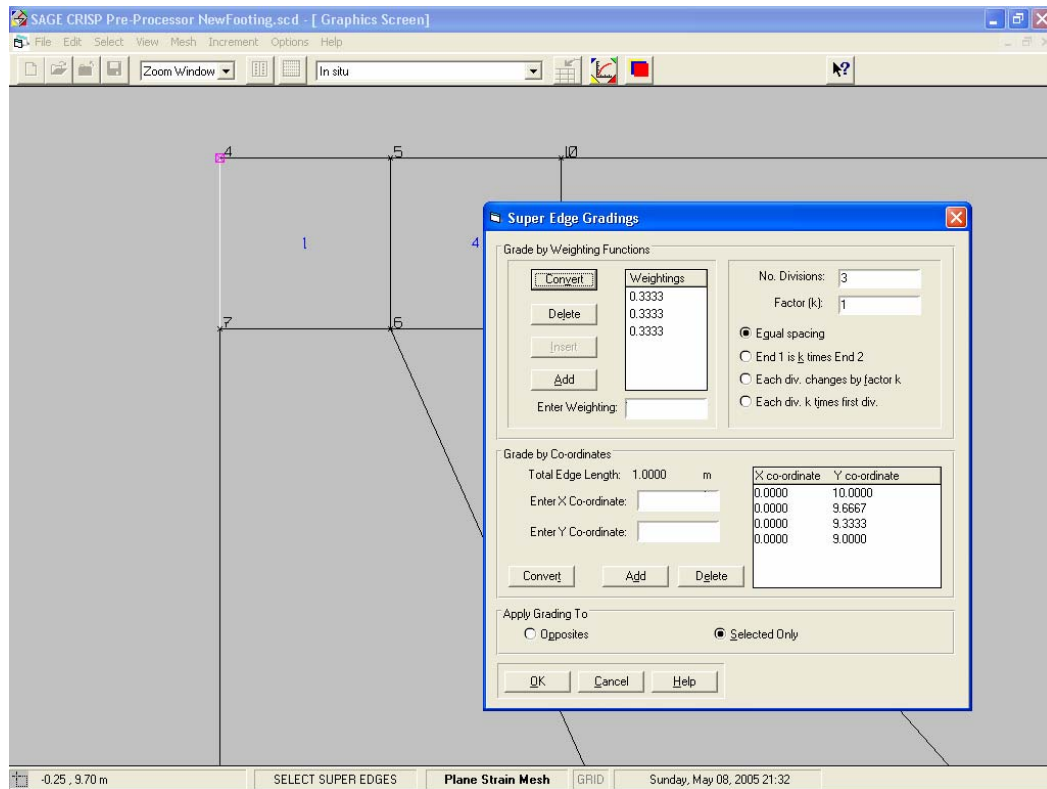

Figure 13 Defining Edge Gradings near the footing corner
- Step 16** Enter '3' into the **Number of Divisions** text box and click on the **Equal Spacing.** option. Weighting values will be automatically entered and the dialogue box should now look like Figure 13.